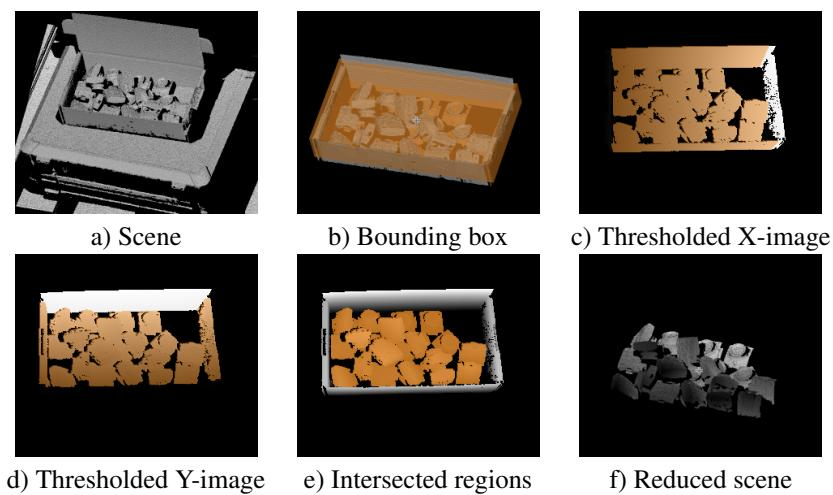

Figure 6.4: After removing the background plane the domain is reduced based on the 2D-mappings of the scene.
- Estimate the extents of the bin. Now that the scene is reduced to the bin containing the objects to be localized, the bin is estimated approximately with respect to the scene coordinate system (see figure 6.4 b).
- Apply a 2D threshold on the X and Y mappings (see figure 6.4 c and d)).
- Compute the region of interest by intersecting the X- and Y-mappings and the domain of the scene without background (see the results in figure 6.4 e and f)).